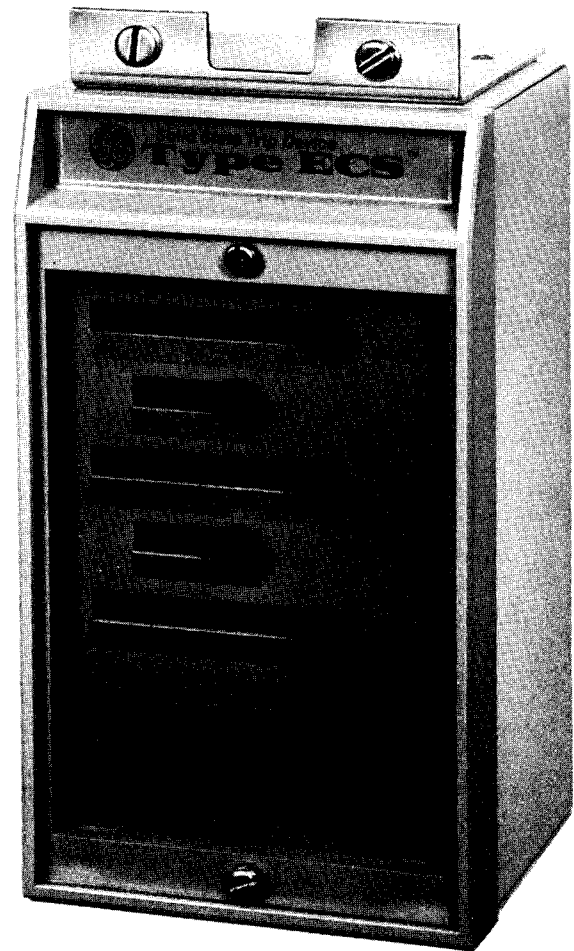

Fig. 17. ECS Programmer Unit
1. Programmer units (Fig. 17) are limited to combinations of Long Time, Short Time and Instantaneous trip elements only. The Ground Fault element is not available.